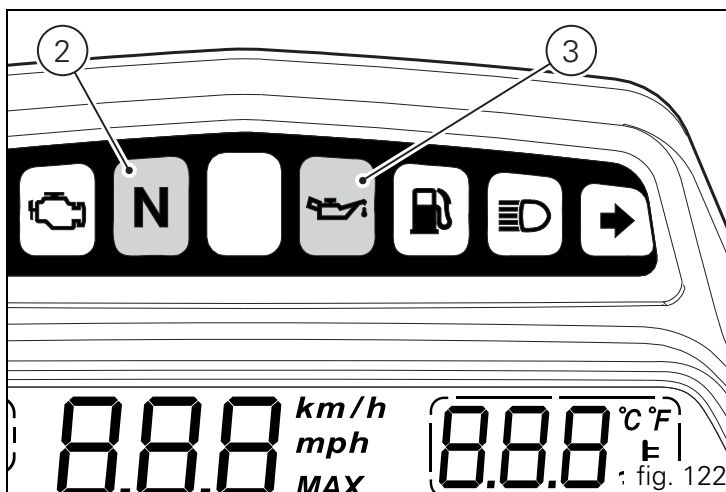

fig. 122
The dashboard on handlebar will perform the initialisation and will control the onboard systems, turning on all lights in sequence, from outside to inside, for a few seconds. After this control, only the green light (2, fig. 122) and the red light (3) must remain on.